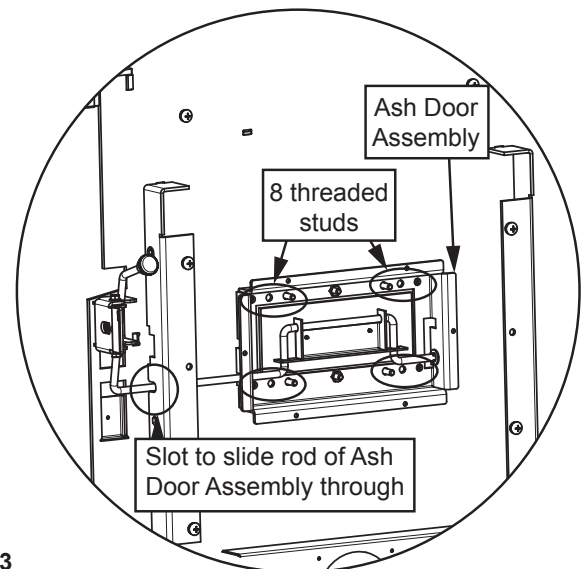

Figure 17.3
7. Install ash door assembly by sliding the rod at an angle into the slot on the left side (**Figure 17.3**).
8. Slide the ash door over the 8 screws protruding from the bottom of the appliance. Secure with nuts and washers using 7/16 socket wrench (**Figure 17.3**).
- Install ash door assembly by sliding the rod at an angle into the slot on the left side (**Figure 17.3 on page 17**).
- Slide the ash door over the 8 screws protruding from the bottom of the appliance. Secure with nuts and washers using 7/16 socket wrench (**Figure 17.3 on page 17**).